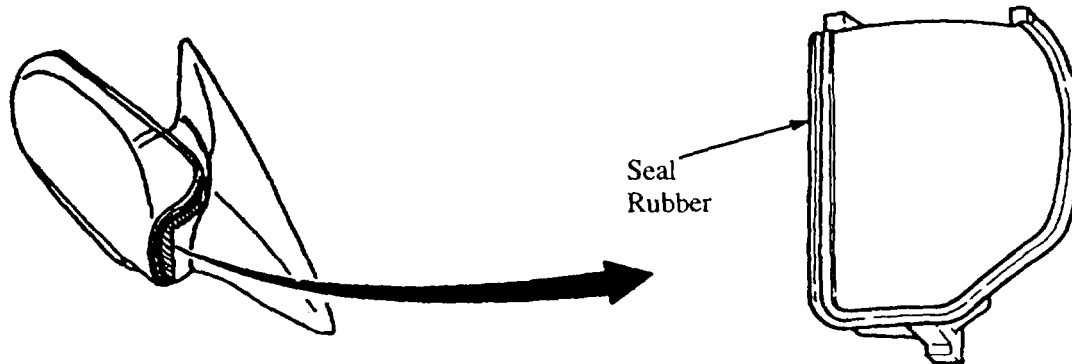

Figure 2: Power Door Mirror
6. Add respective (right and left) seal rubber to the mirror. **Figure 2.**